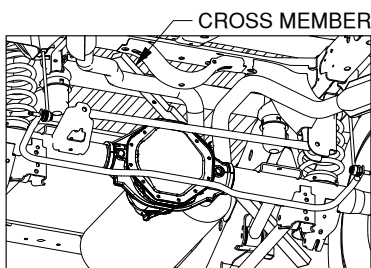
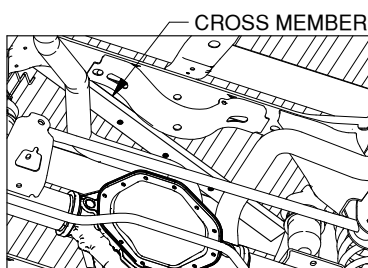

Figure B1: View under bed looking from rear towards the axle.
Figure B2: View under bed looking at area above axle.
3. **Place the rear cross member.** The rear cross member is the 2" x 1" bar with the threaded holes. The cross member will be installed from the passenger side, just in front of the rear tire. Insert the cross member between the frame and the top suspension control arm with the notch machined into the cross member going first and facing the rear. Slide the leading end of the cross member above the exhaust and over the frame of the truck on the driver side while moving that end toward the rear, see Figure B1. As the leading end gets to the driver side, raise the opposite end of the cross member up until both ends of the cross member can be positioned over the top of the frame with the cross member laying flat and the notch still facing the rear, see Figure B2.